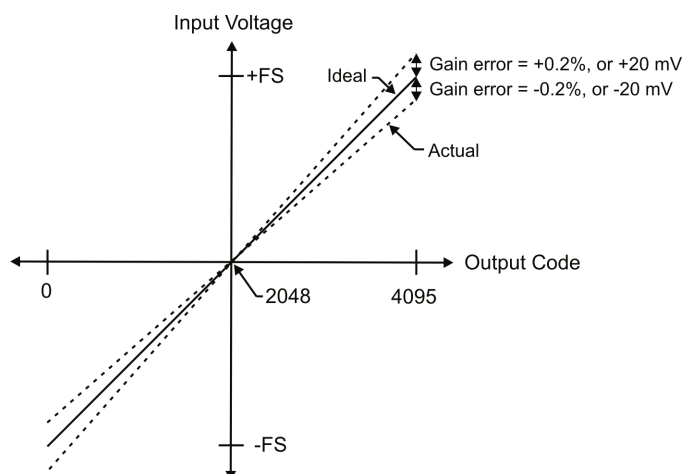

Figure 12. ADC Transfer function with gain error
Gain error is a change in the slope of the transfer function from the ideal, and is typically expressed as a percentage of full-scale. Figure 12 shows the USB-7204 transfer function with gain error. Gain error is easily converted to voltage by multiplying the full-scale (FS) input by the error.
The accuracy plots in Figure 12 are drawn for clarity and are not drawn to scale.